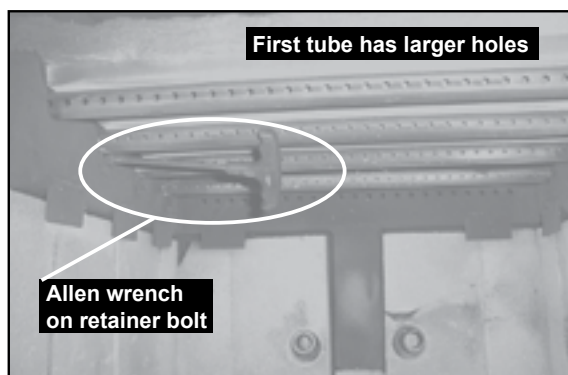

FIGURE 24B - Allen wrench on retainer bolt.
2. With a 3/16" allen wrench, remove the 2 front secondary combustion tube retainer bolts on the secondary air channel under the end of the front tubes. See Figure 24B. NOTE: Soak the bolts with penetrating oil for at least 15 minutes before trying to remove them.